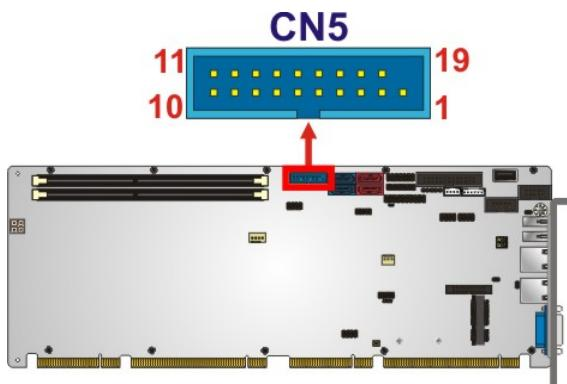

Figure 3-29: USB 3.1 Gen 1 Connector Location
**Table 3-30: USB 2.0 Connector (Type A) Pinouts****3.2.28 USB 3.1 Gen 1 Connector****CN Label:** CN5**CN Type:** 19-pin box header, p=2 mm**CN Location:** See **Figure 3-29****CN Pinouts:** See **Table 3-31**